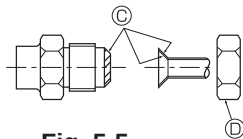

Fig. 5-5
Ⓐ (Fig. 5-5)
5.5. Connecting pipes (Fig. 5-4) (Fig. 5-5)
- [Fig. 5-5]